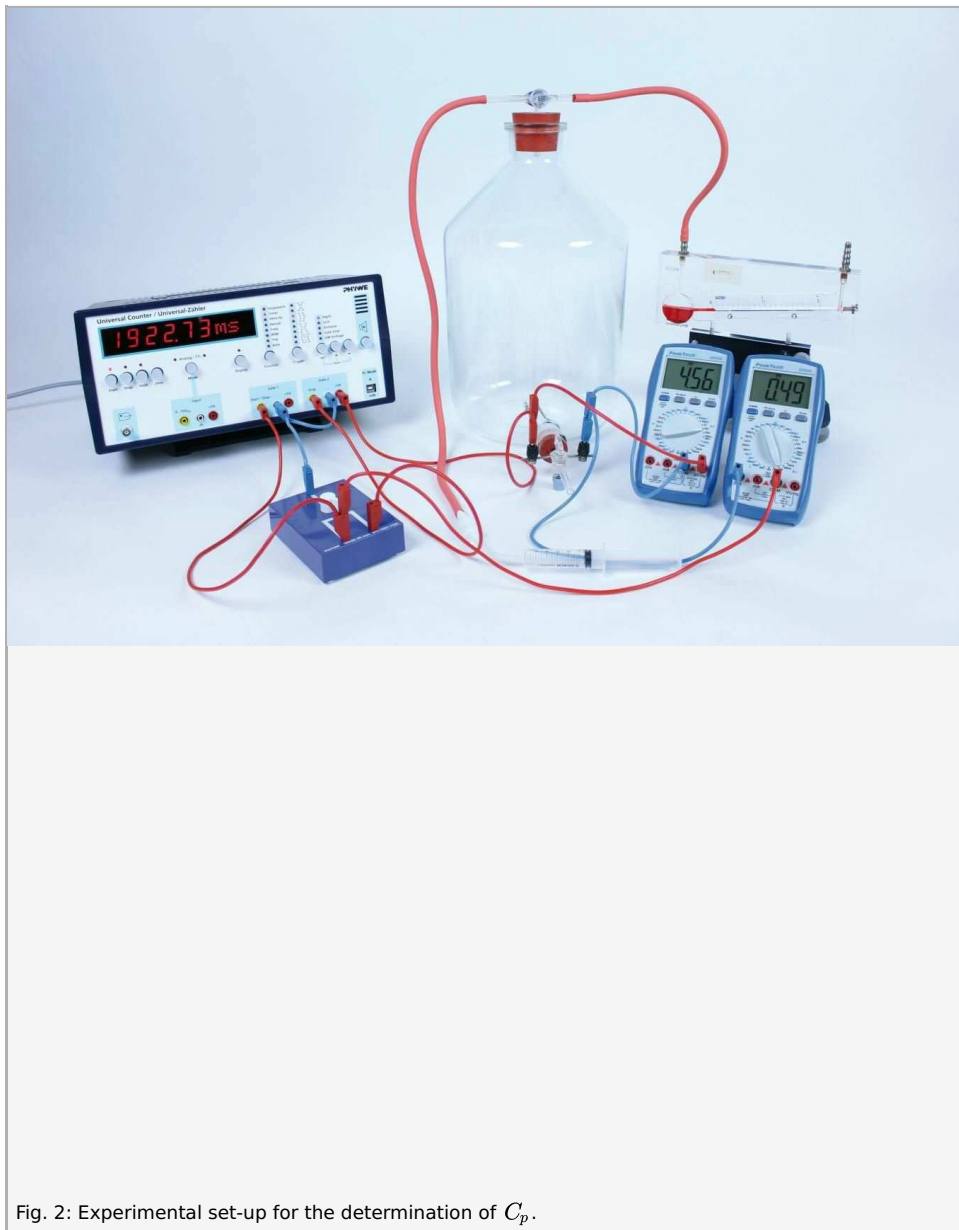

Fig. 2: Experimental set-up for the determination of  $C_p$ .
- To determine  $C_p$  connect the syringe to the bottle via the three-way stopcock (compare Fig. 2).